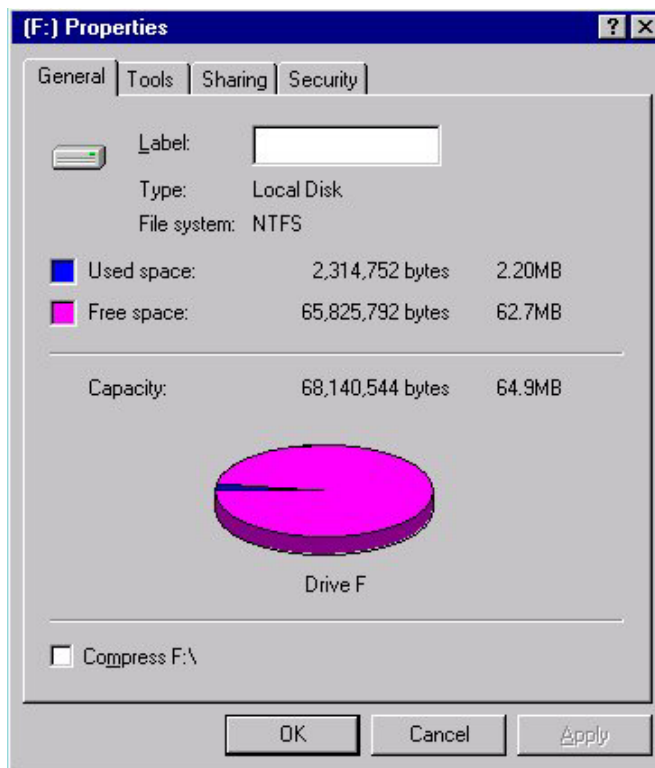

Figure 3.12 Verifying New Device Properties
3. On the Properties panel (see Figure 3.12), verify that the properties are correct: label (optional), type, capacity, and file system.